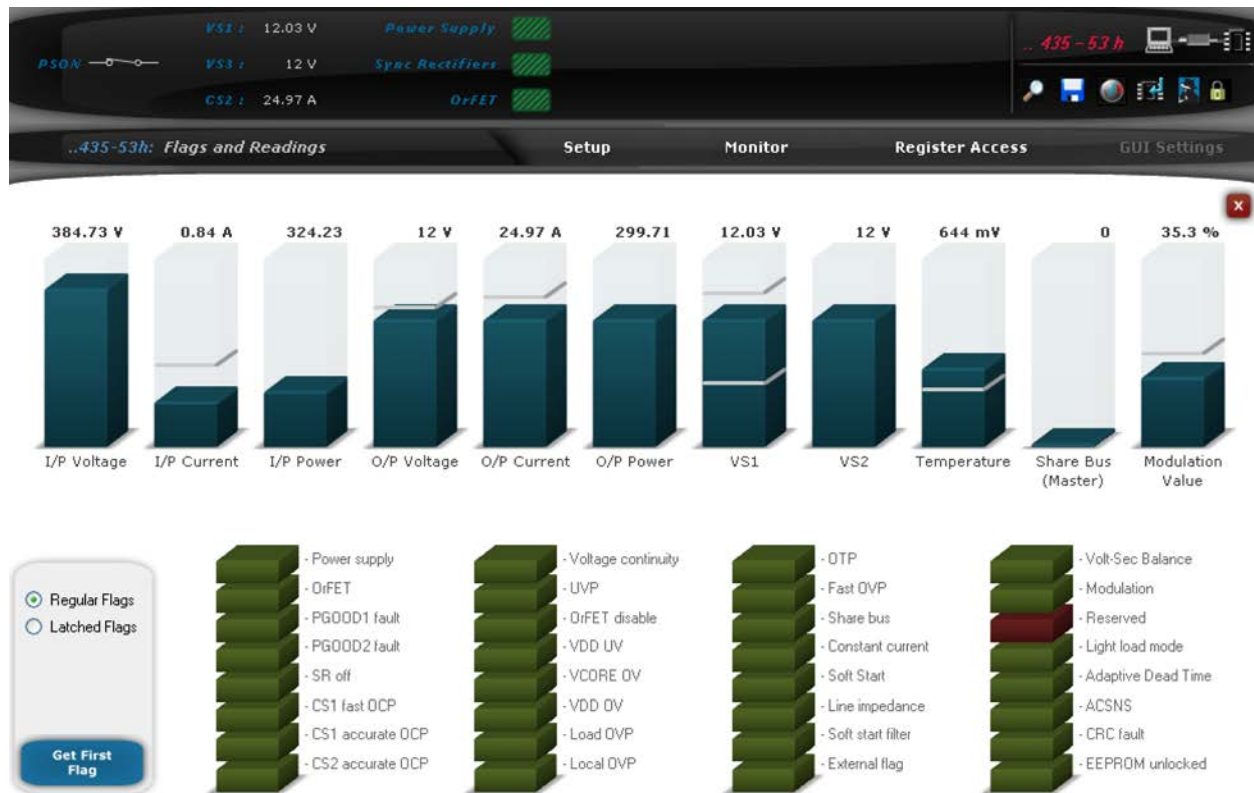

Figure 11. Flags and Readings Window in GUI Showing the Entire Status of the PSU at Full Load
12. Click the **Monitor** tab and then the **Flags and Readings** button (not shown) to load the entire state of the power supply unit (PSU) in a single user-friendly window (see Figure 11).
The **Flag Settings** window shows all the fault flags (if any) and the readings on one page (see Figure 12). The **Get First Flag** button (see Figure 11), which can be accessed by clicking the **Monitor** tab, determines the first flag that was set in case of a fault event.